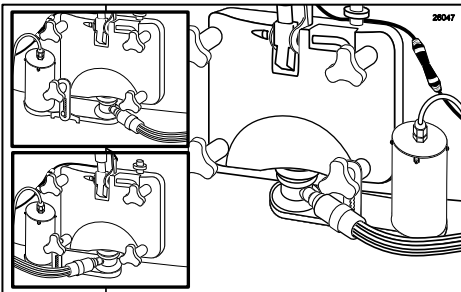

Figure 132
1. Determine which side of the freezer the Injector Assembly will be mounted on. The Suspension Bracket should be installed to the outside of the Gear Box Assembly. (See Figure 132.)